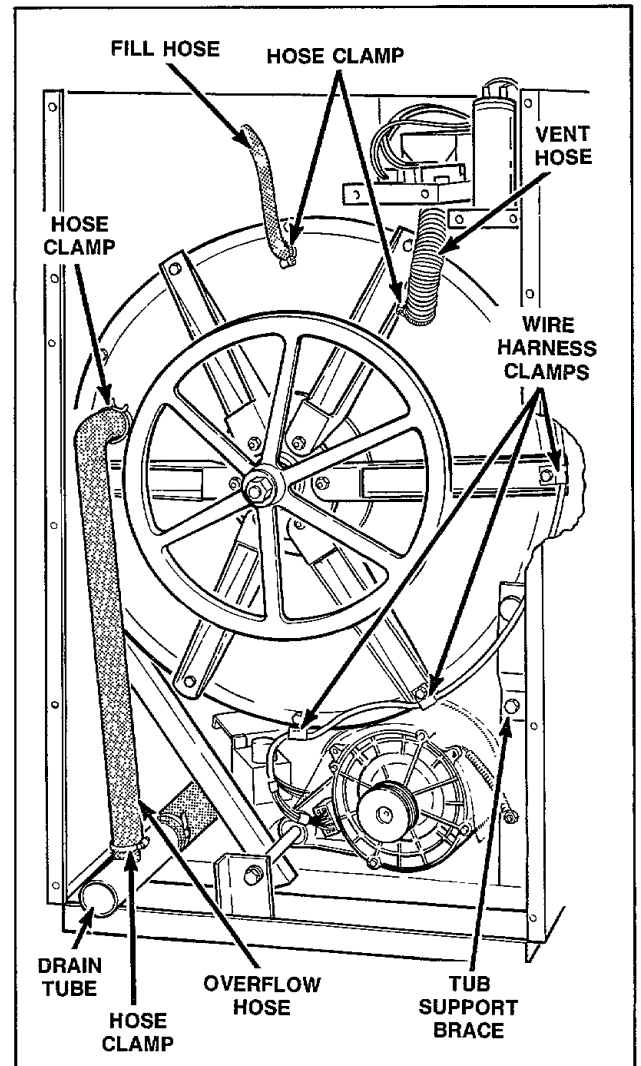

Figure 25
- h. Loosen hose clamps and remove the fill hose and vent hose from the tub back, *Figure 25*.
- i. Loosen hose clamps and remove the overflow hose from tub back and drain tube, *Figure 25*.
- j. Remove the main wire harness from the three metal clamps, *Figure 25*. Position the wire harness around the side of the outer tub so it will be out of the way.
- k. Remove hardware holding tub support brace to frame, *Figure 25*.